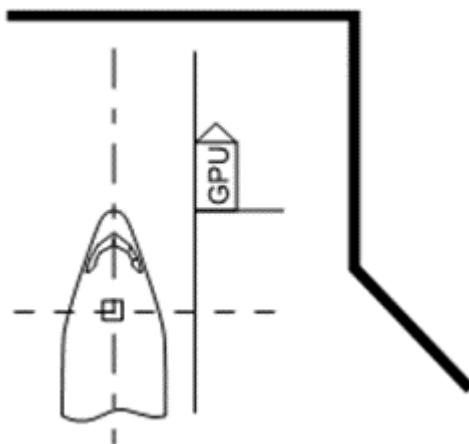

Figure 4.1.4.1 - Sample GPU positioning
- b. Position the GPU on the appropriate side of the aircraft as shown in Figure 4.1.4.1 (example of GPU positioning).